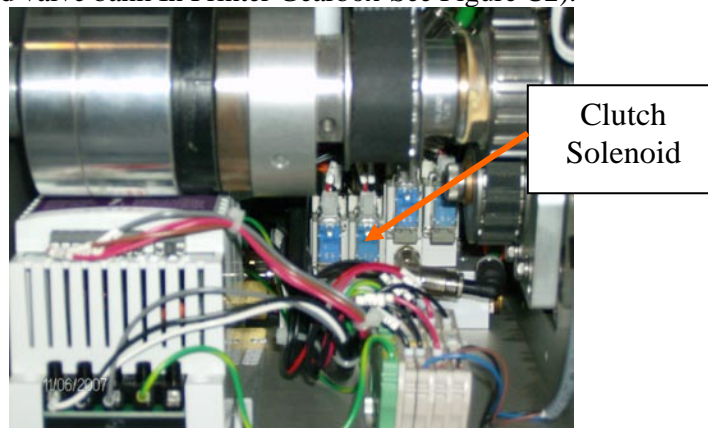

Figure C2: Solenoid Valve Bank
2. Check operation of pneumatic clutch by manually engaging the clutch solenoid (solenoid valve bank In Printer Gearbox-See Figure C2).